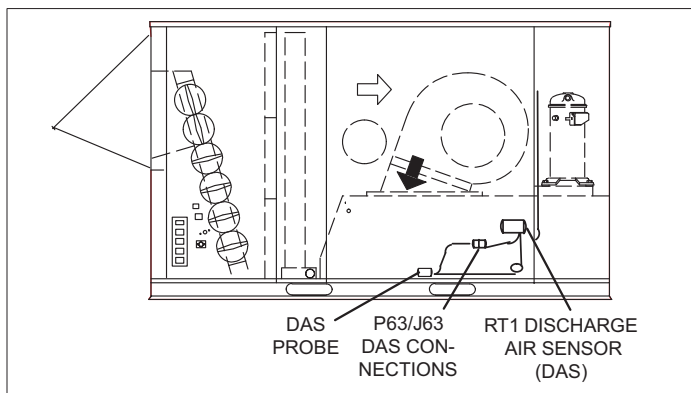
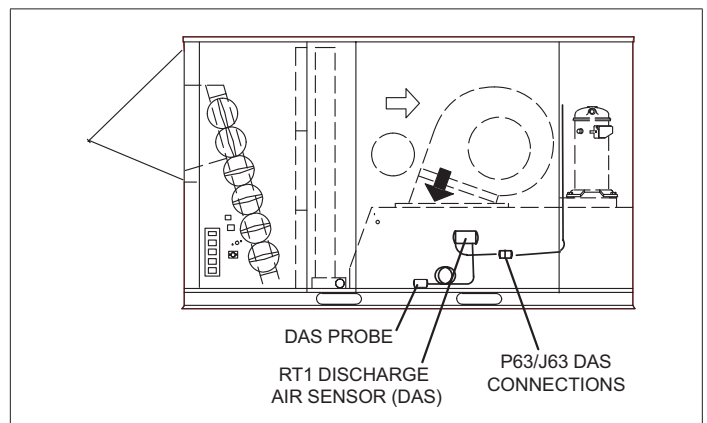

Figure 9. RT1 Discharge Air Sensor (036, 060 Units)
Figure 10. RT1 Discharge Air Sensor (120, 240 Units)
1. If NOVAR 3051 DDC is replacing a NOVAR 2024 DDC, then remove the current discharge air sensor and replace with sensor provided in kit. If the 3051 DDC is a new install, insert discharge air sensor probe into knockout as shown in figure 9 (036, 060 units) or figure 10 (120, 240 units). Secure with the provided two screws.